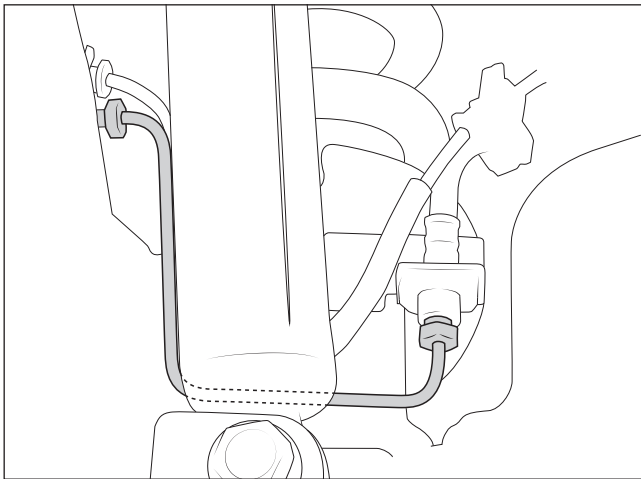

Figure 3
- B. Remove the steel brake lines between the two flexible lines (fig. 3).